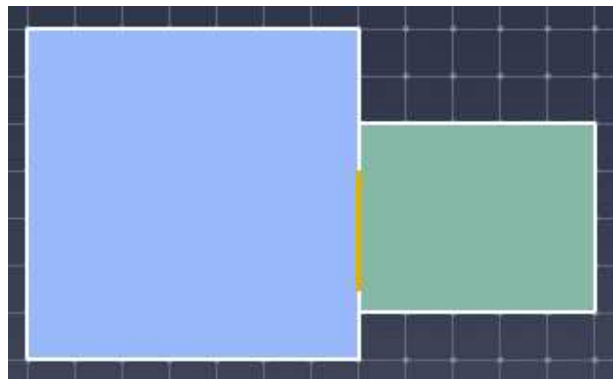

Figure 50. Adding a thin door to connect the rooms
3. The created door will appear as a thin, orange line in the 3D and 2D views as shown in Figure 50.